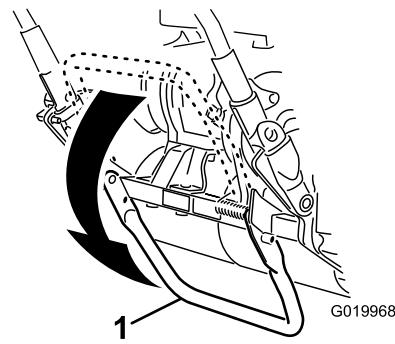

Figure 9
1. Push the kickstand down with your foot **in the center of the kick stand** and pull up on the machine handle until the kick stand has rotated forward, over center (Figure 9).